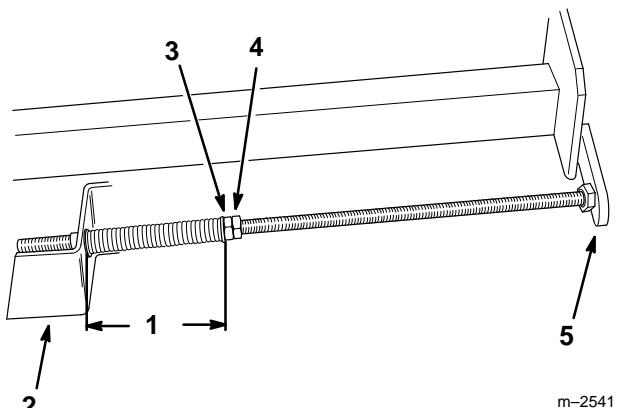

Figure 6
1. 1/2" Jam Nut (2)	5. Adjusting Shaft
5. Insert the spring end of the adjusting shaft into the hole in the deck mounting bracket. Note that the small end of the bushing fits into the hole in the deck bracket. Insert the locknut end of the adjusting shaft into the carrier frame mounting tab (Fig. 6).
6. To tension the belt, tighten the front jam nut on each adjusting shaft until the springs are compressed to 5" (12.7 cm). Measure the spring compression between the spacer and the bushing (Fig. 6). Readjust if needed.
7. Tighten the rear jam nuts (Fig. 6).